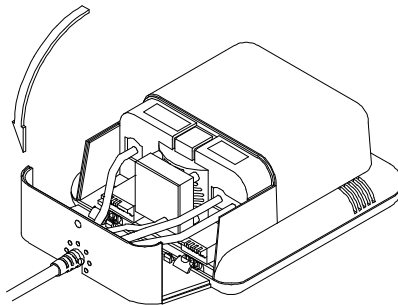

Figure 2.4
5. Place the scanner as illustrated in figure 2.4 and rotate the scanner around the cover. Make sure the connectors and cables are placed properly as illustrated in the figures to allow easy attachment of the scanner to the back cover. Press the scanner until a “click” is heard.